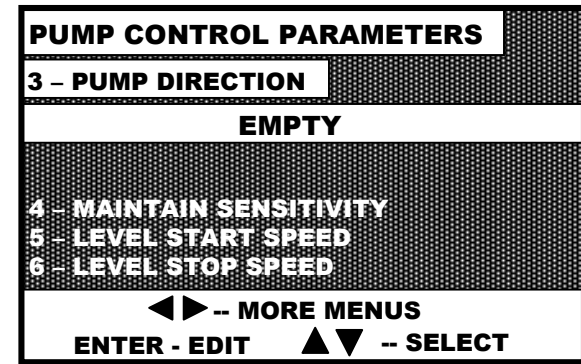

fig. 3
12. Touch **DOWN** arrow to display **"3 – PUMP DIRECTION"**. **"EMPTY"** should be displayed. (*fig. 3*) If not, touch **ENTER** and then **DOWN** arrow until **"EMPTY"** is displayed, then touch **ENTER** to set parameter. Blinking will stop.